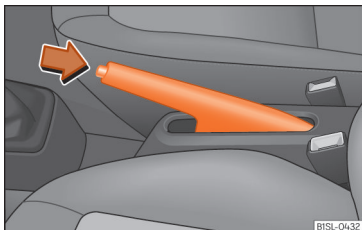

Fig. 161 Between the front seats: parking brake.
- Pull gently in an upwards direction on the handbrake lever and press the lock button »» Fig. 161 (arrow).